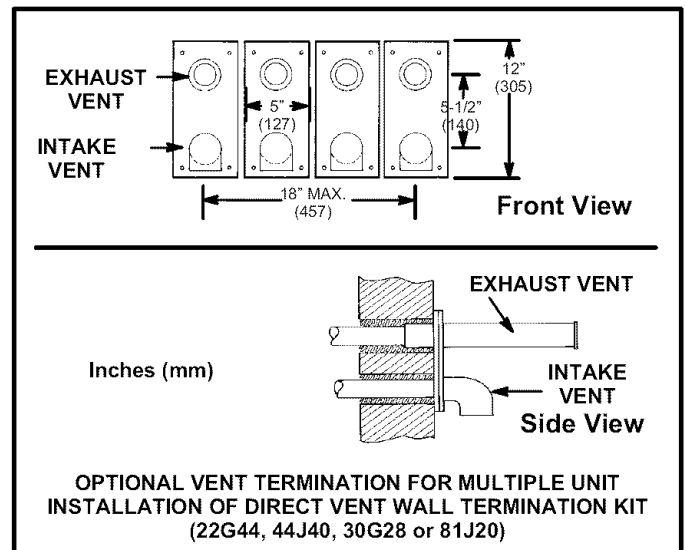

FIGURE 40
- 9 - Based on the recommendation of the manufacturer, a multiple furnace installation may use a group of up to four termination kits WTK assembled together horizontally, as shown in figure 40.